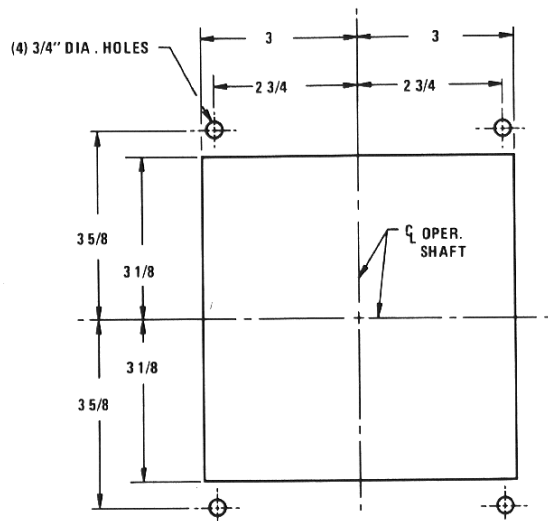

Fig. 14
- b. If it has not already been done, cut opening and drill or punch four 3/4" diameter holes in left side of enclosure per pattern shown in Fig. 14. (The same information appears on direct drive handle Dwg. 422-446).